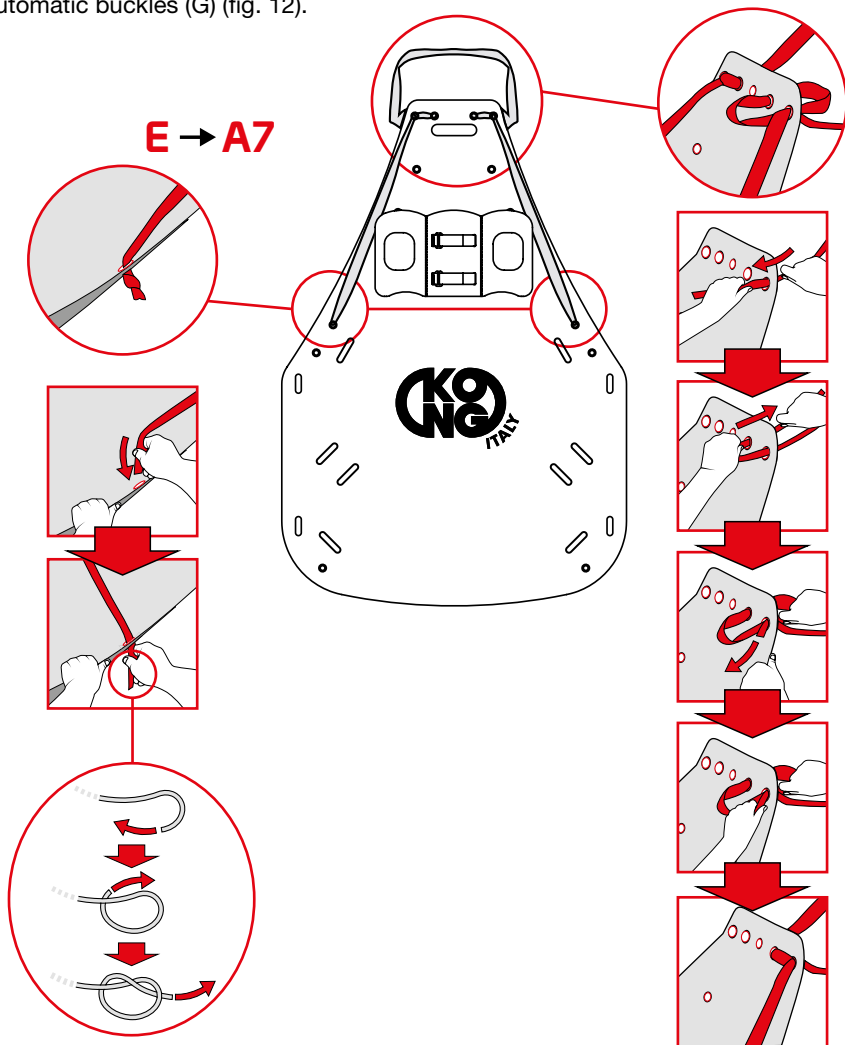

Fig.9
- Insert the sling (E) in the A7 holes in the support surface (fig. 9).